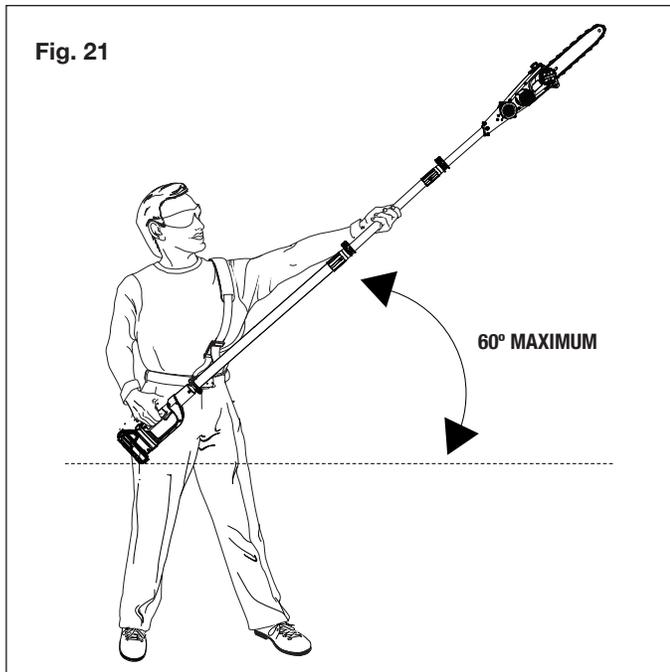

Fig. 21
- The most typical cutting application is to position the unit at an angle of 60° or less depending on the specific situation (Fig. 21). As the angle of the pole chain saw shaft to the ground increases, the difficulty of making the first cut (from the underside of limb) increases.